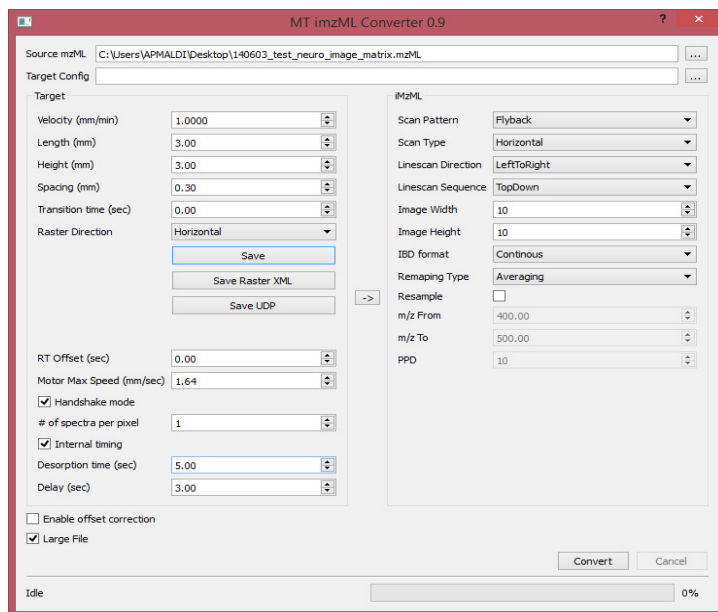

Figure 7.12.12 The MT imzML Converter 0.9
4. Open the MT imzML Converter- the demo software provided by MassTech. Populate the dialog box with the information as shown in Figure 7.12.12.